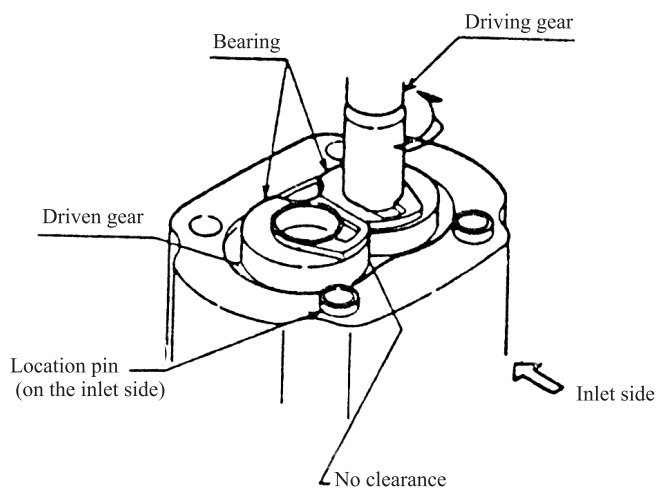

Fig.9-17
9.8.3 Reassembly (See Fig.9-17)